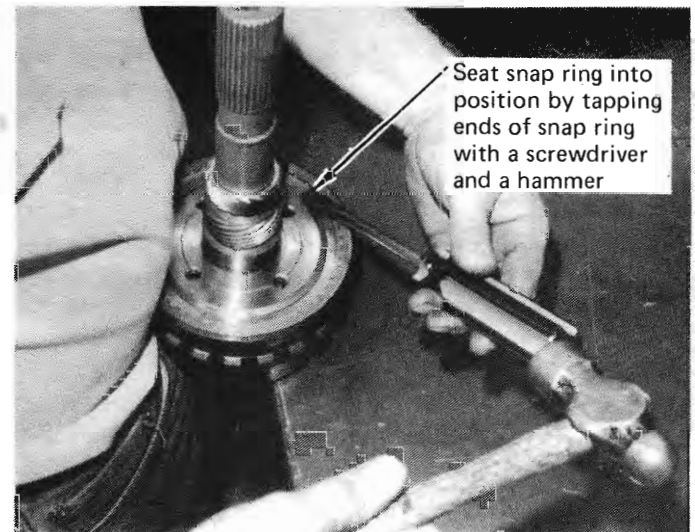

FIGURE 40
STEP 5. Install output shaft into output carrier engaging splines and pushing down until it bottoms out. Some rocking action may be necessary. Install output shaft snap ring into groove. If your transmission has a beveled snap ring, **it must be installed with the bevel out.** After the snap ring is installed in its groove, seat it by tapping each end of the snap ring firmly with a hammer and screwdriver. (See Fig. 40) If your output shaft has an O-ring seal, replace it with the O-ring in the kit.